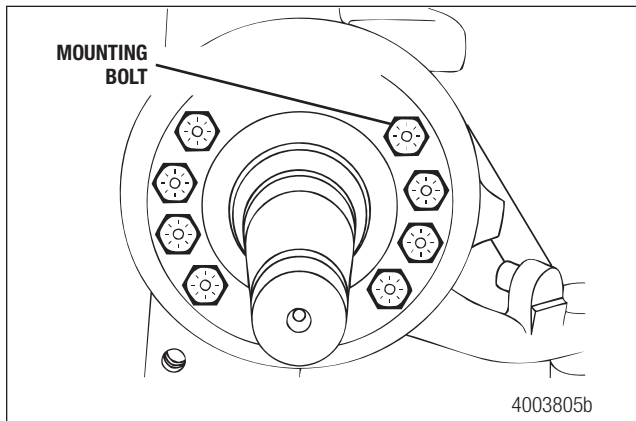

Figure 6.6
1. Install the torque plate mounting bolts. Tighten the bolts to the specified torque. Refer to Section 11 Specifications on page 26. Figure 6.6.